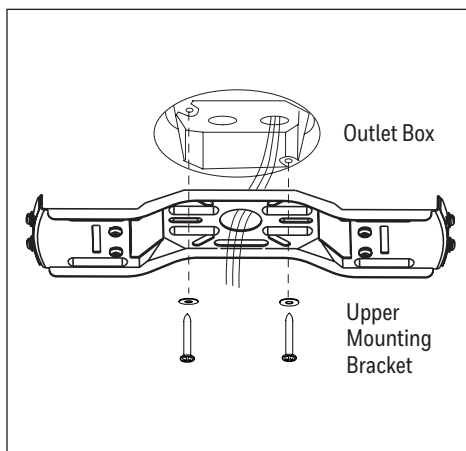

Figure 2.1
1. Install the upper mounting bracket to the outlet box (not included) using the screws and washers provided with the outlet box. **WARNING:** To reduce the risk of fire, electric shock, or personal injury, mount to the outlet box marked "acceptable for fan support" (Figure 2.1).